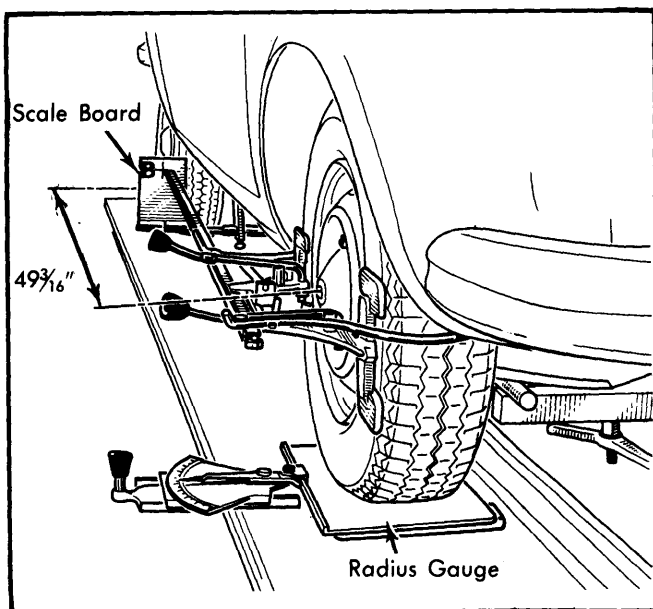

Fig. 1 Height Measurement Equipment Attached to Vehicle
2) Compress front axle with suitable tool (T. Av. 238-02) until top of tool is $\frac{5}{16}$ " (20 mm) R-12, 15, 17, or 1" (25 mm) R-5, below underside of lower member. Under vehicle, attach brackets of a suitable height measurement tool (T. Vv. 246-01) such that the scale boards are $49\frac{3}{16}$ " (1.25 mm) R-12, 15, 17, or $51\frac{3}{16}$ " (1.30 mm) R-5, from center of front wheels (See Fig. 1).